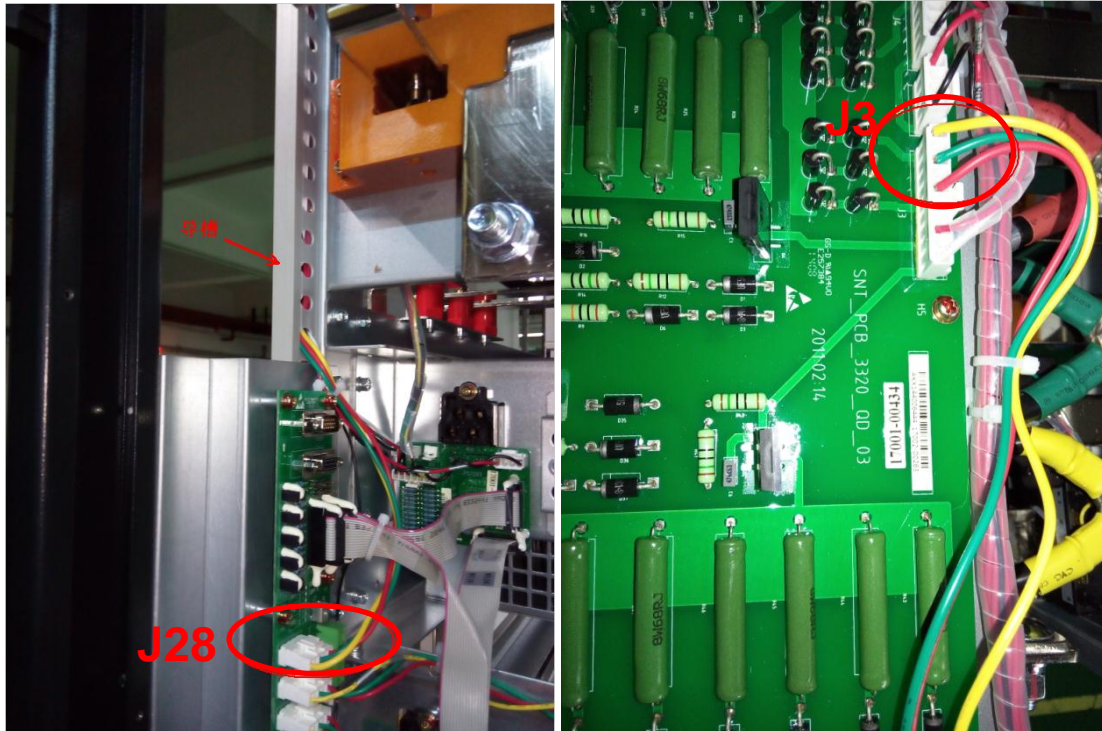

Figure 4 New monitoring cable installations
5. Connect cable J3 (battery cold start board) to bypass communication board J28, as is shown in figure 4.